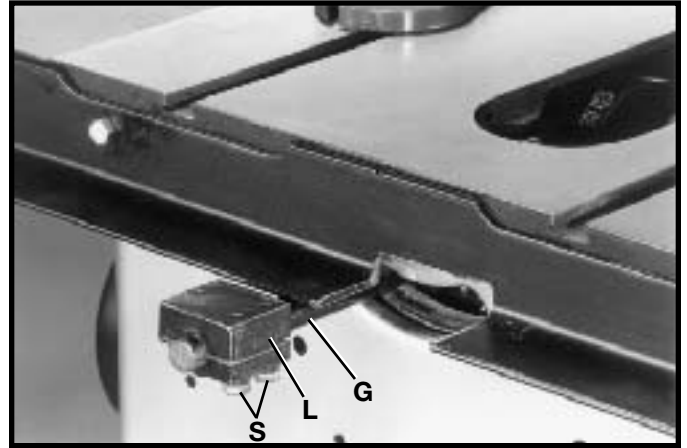

Fig. 29
7. Assemble lower bracket (L) Fig. 29, to rod (G) and snug-up with two one-inch long hex head screws (S) and lockwashers from underneath bracket (L).